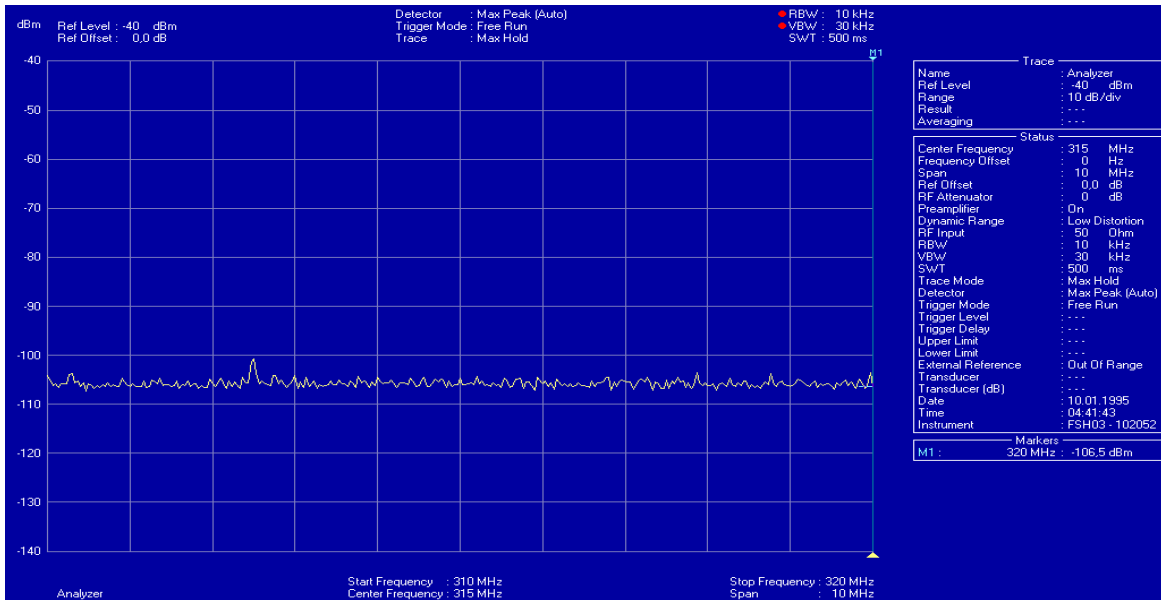

Fig. 1: Typical site survey without preamplifier
- 2) Analyze and Evaluation. In the following please look at the two (Fig. 1 and Fig. 2) typical “uncritical” screen shot examples for comparison: